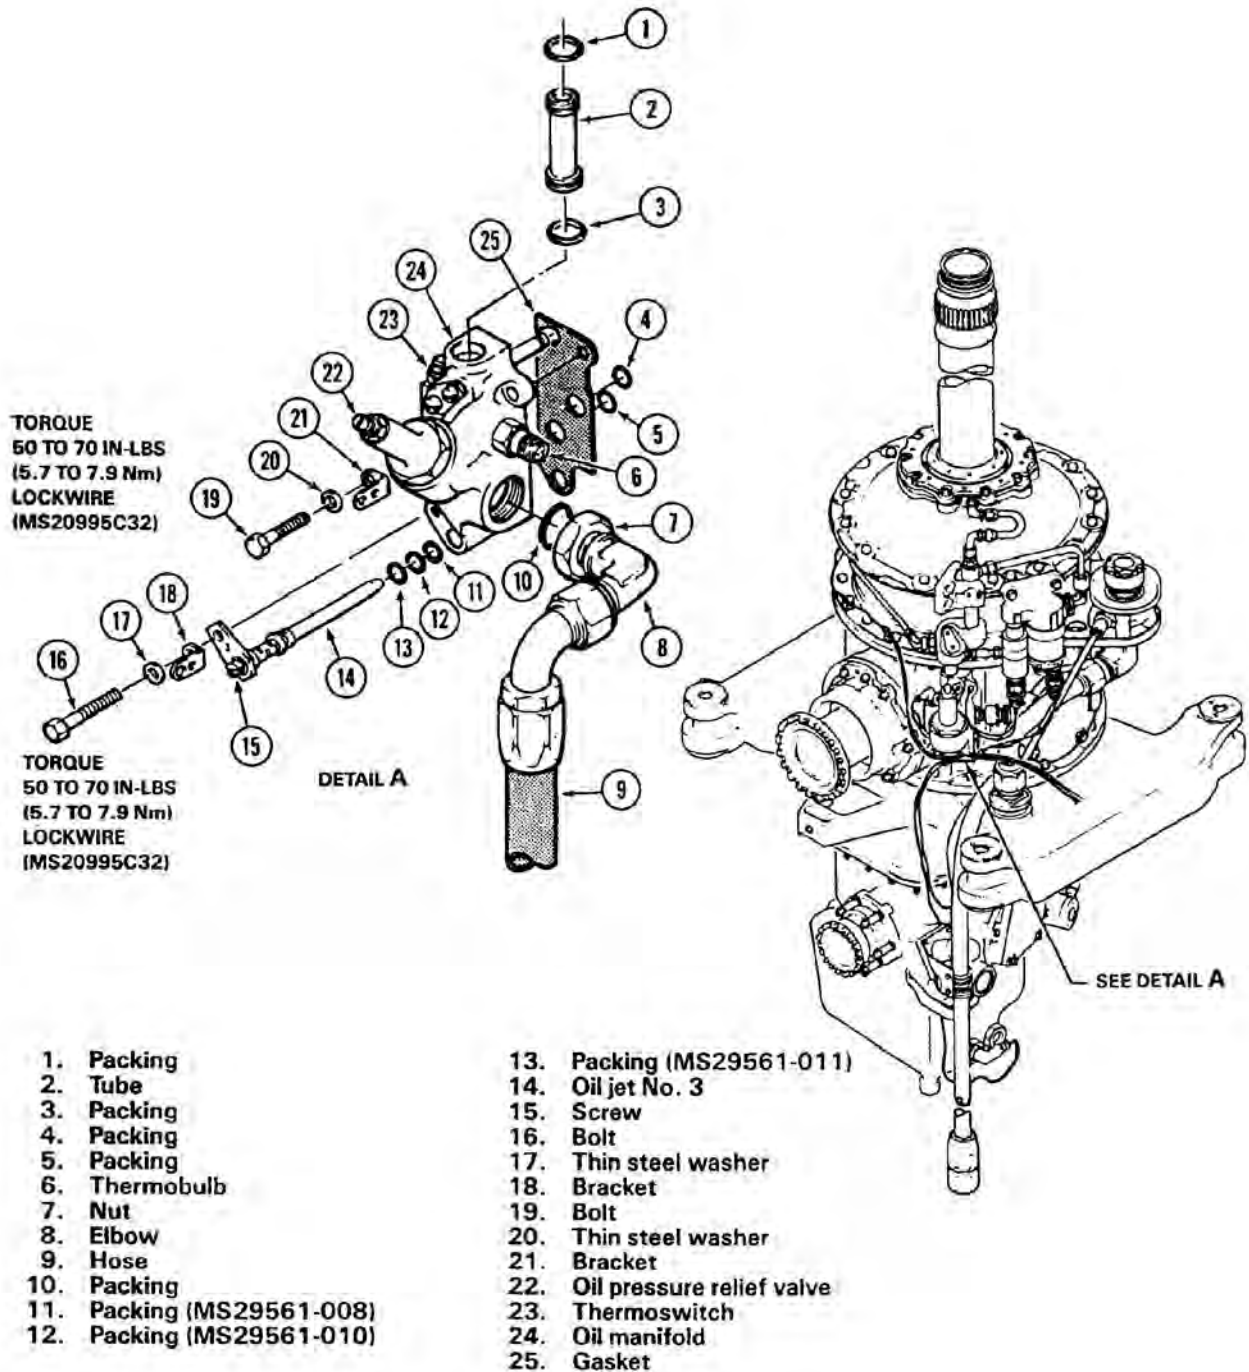

Figure 63-36. Oil Temperature Manifold
63.5.19.1.1 Remove bolt (16, Figure 63-36), washer (17), and bracket (18).
63.5.19.2.1 Coat new gasket (25, Figure 63-36) and all packings with transmission oil (Chapter 12).